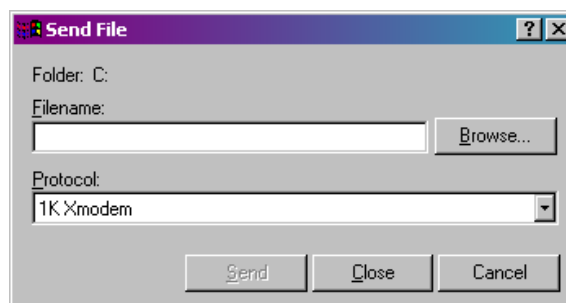
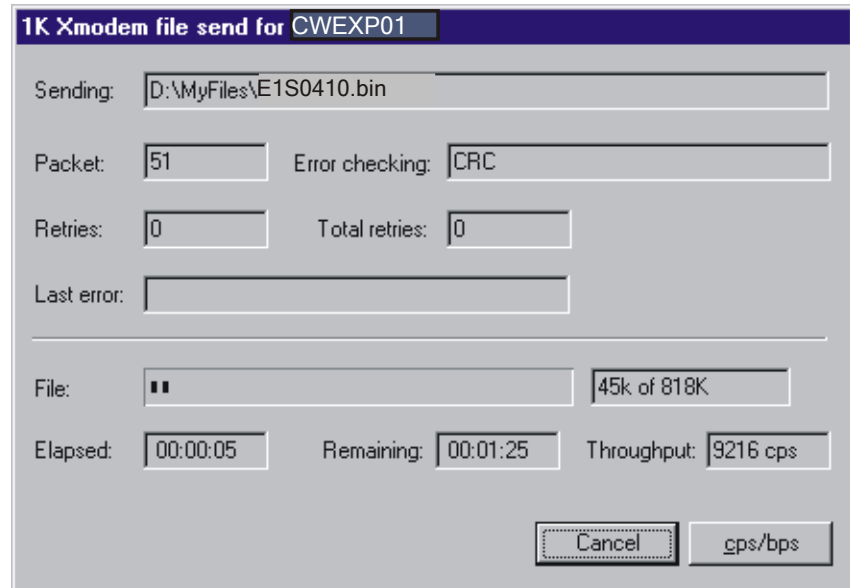

Figure 5-3. Send File dialog box
Figure 5-4. HyperTerminal (Download in Progress)
8. In the Send File dialog box (see *Figure 5-3*), select **1KXmodem** for the protocol, enter the filename of the appropriate .bin file in the format “E1Sxxxxx.bin” or “E3Sxxxxxx.bin” (where E1S refers to 14 MHz CPUs, and E3S refers to 33 MHz CPUs and xxxxx varies from release to release) and click **Send** to start the flash upgrade (see *Figure 5-4*). When you see the HyperTerminal Mode Menu again, it means the download has completed.